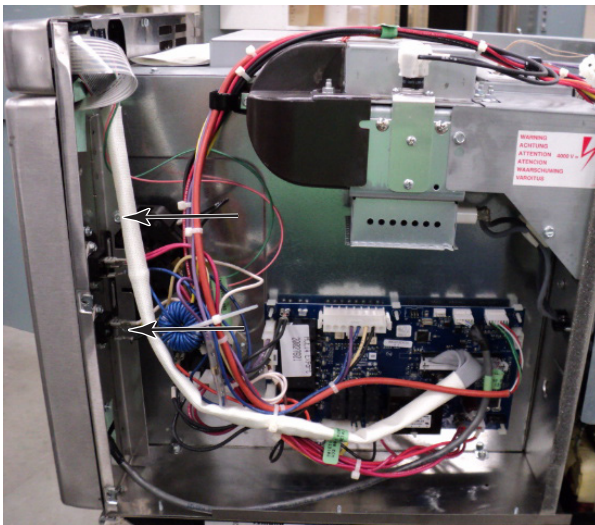

Figure 1
2. Open door and remove two hex screws holding interlock to cavity on right hand side and move out of way. Do not remove wires from interlock (Figure 1 & 2).